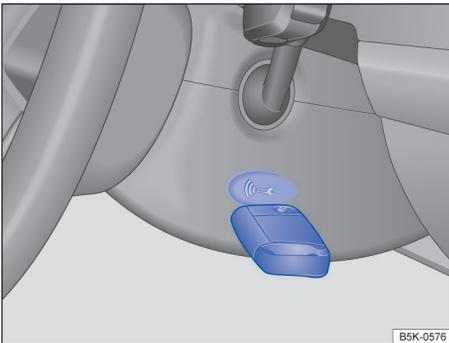

Fig. 92 To the right of the steering column: emergency start function of vehicles with Keyless Access locking and start system.
- Hold the vehicle key after pressing the start button directly to the right of the steering column → Fig. 92.